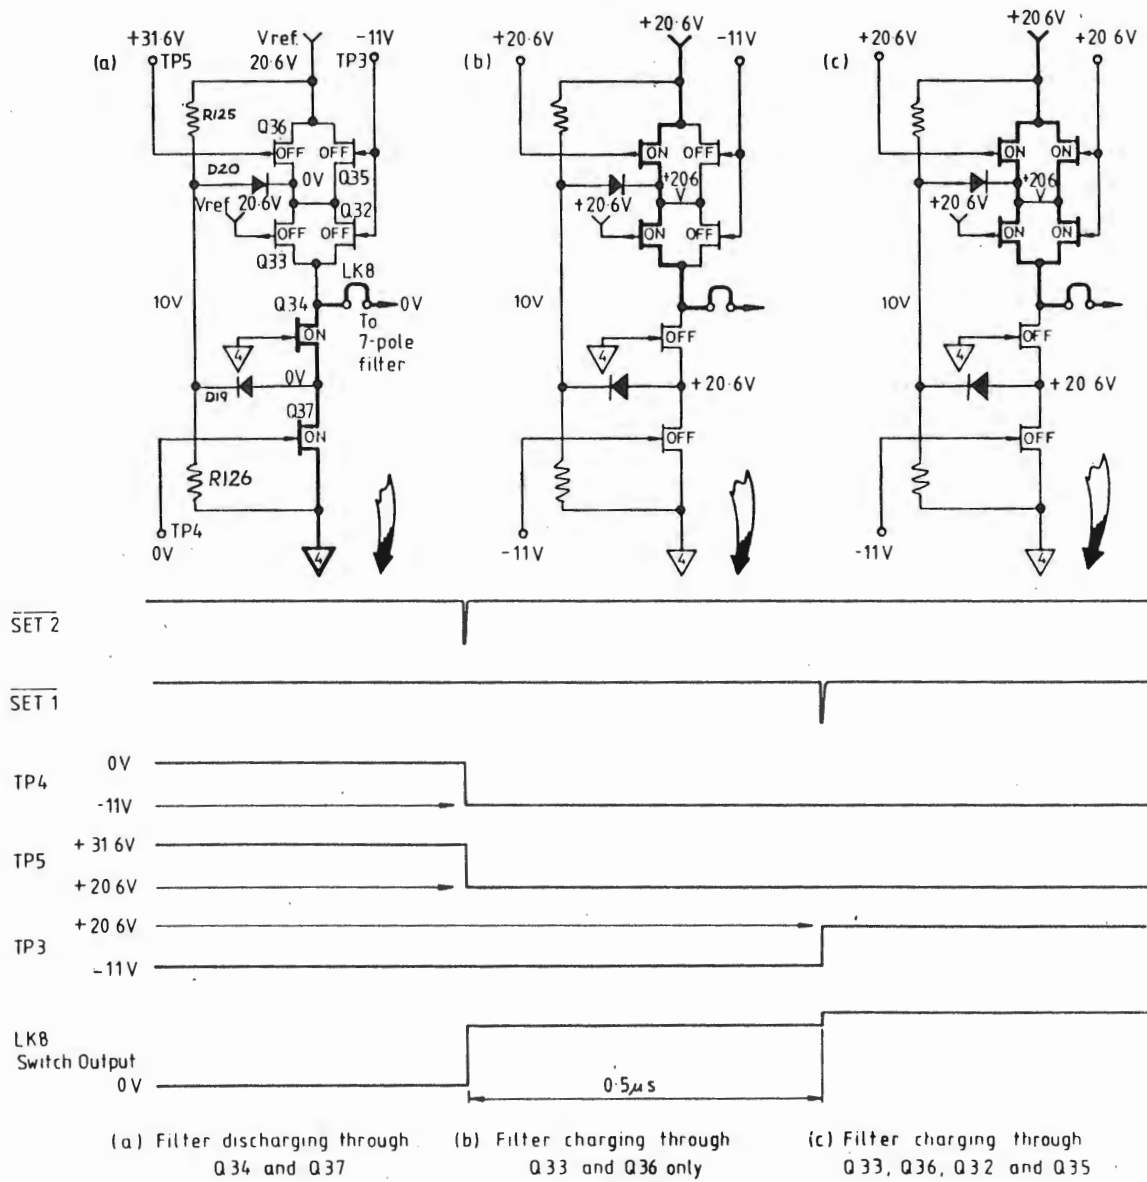

FIG. 6.27 ACTION OF MAIN AND GUARD SWITCHES (MSD)
5.8 MAIN and GUARD SWITCHES (Fig. 6.27)
refer to Fig. 6.27, in which only the Space to Mark (SET) state transfer a-b-c is shown.
(Fig. 6.27)
In *Fig. 6.27(a)* the switches are in "space" state:
Fig. 6.27(b) shows this intermediate state after $\overline{\text{SET 2}}$ and before $\overline{\text{SET 1}}$, and *Fig. 6.27(c)* illustrates the fully-conducting state after $\overline{\text{SET 1}}$. Note that for descriptive purposes, the second step on LKB waveform is heavily exaggerated, and is not readily viewed on an oscilloscope. The slightly longer charging time-constant during this half micro-second, due to the higher resistance of Q36/Q33, is not sufficient to disturb the linearity of the filter in excess of specification.